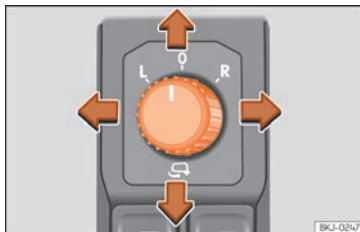

Fig. 149 Exterior mirror controls.
1. Turn knob » » » Fig. 149 to position **L** (left exterior mirror).
- Turn the control » » » Fig. 149 to position  to fold in the exterior mirrors. You should always fold in the exterior mirrors if you are driving through an automatic car wash. This will help prevent damage.